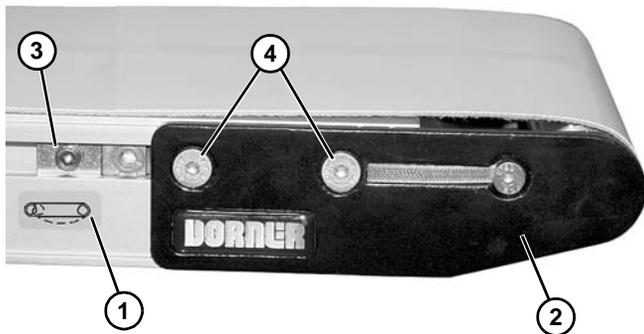

Figure 40
2. On tension end of the conveyor, identified with  a label (Figure 40, item 1), push in head plate assembly (Figure 40, item 2):
- a. On both sides of conveyor, loosen and move cam tracking assemblies (Figure 40, item 3) (if equipped) away from head plates.
- b. Loosen fastening screws (Figure 40, item 4) and push head plate assembly inward.